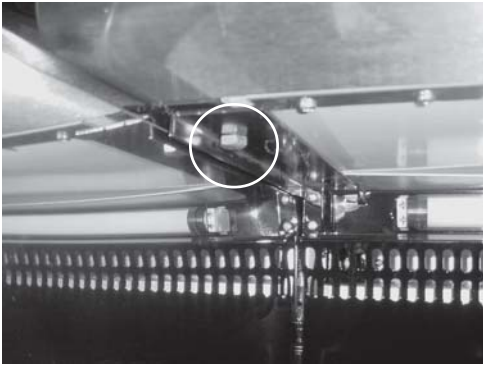

Figure 2-1
3. Line up the 2 front holes and secure the top to the base using the bolts from step 1. Figure 2-1.